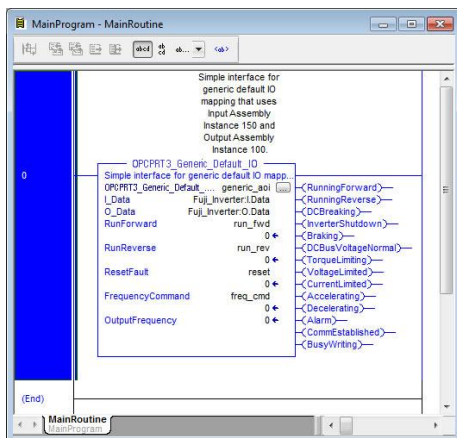

Figure 46: Configure Generic Default AOI
- 10) Edit the add-on instruction according to Figure 46.